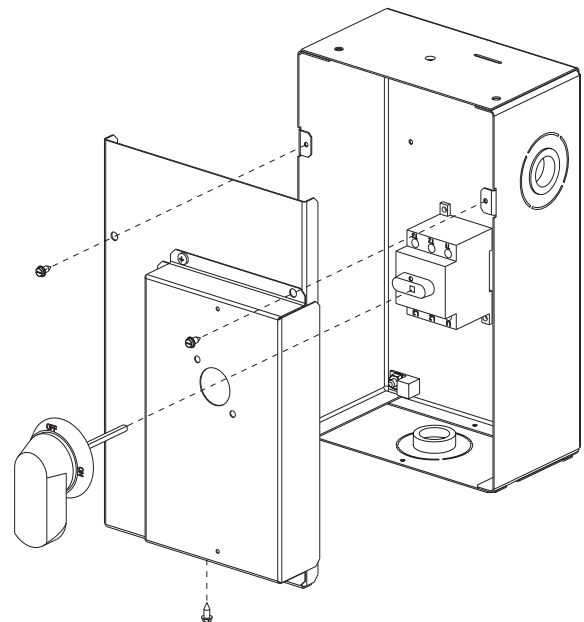

Fig. 28 — Handle and Shaft Assembly for NFD
5. Insert the shaft with the cross pin on the top of the shaft in the horizontal position. See Fig. 28.